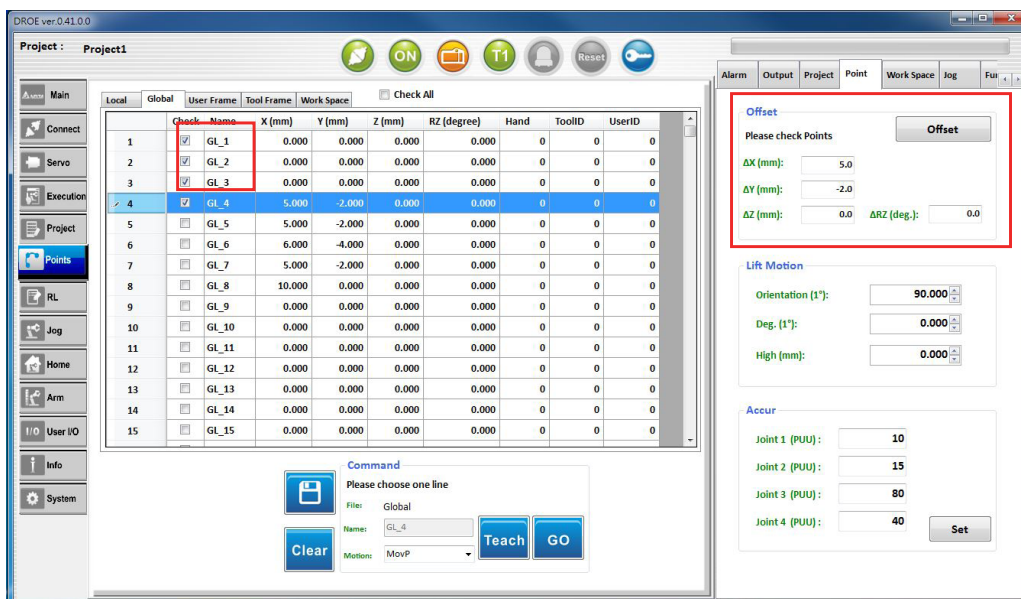

Fig.29 Offset (coordinates data offset)
6. Offset (coordinates data offset) , as shown in Fig.29: